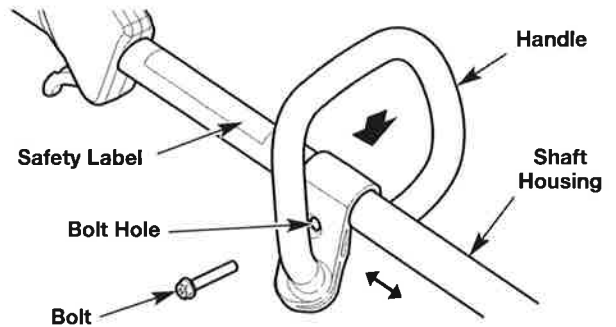

Fig. 3
1. Push the handle down onto the shaft housing (Fig. 3). Make sure the bolt hole faces to the right (Fig. 3).
2. Insert the bolt into the bolt hole and push it through (Fig. 3). Tighten the bolt with a flat-head screwdriver, but do not tighten the bolt completely.
3. Hold the unit in the operating position (Fig. 10) and move the handle to a comfortable location (Fig. 3). Make sure the handle is positioned beyond the end of the safety label (Fig. 3).
1. Loosen the bolt with a flat-head screwdriver (Fig. 3).
2. Hold the unit in the operating position (Fig. 10) and move the handle to a comfortable location (Fig. 3). Make sure the handle is positioned beyond the end of the safety label (Fig. 3).